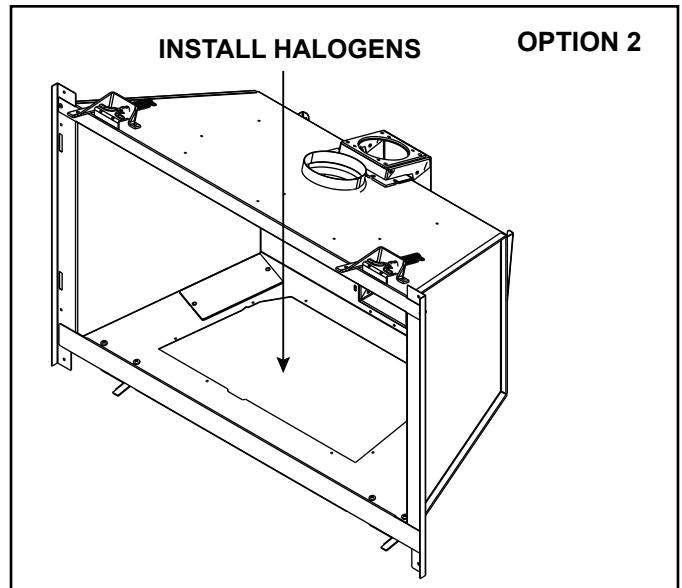

Figure 6.6 Through Valve Plate Opening (Option 2)
- Remove appliance front, glass, logs, base pan assembly, burner assembly and valve plate assembly. See Figure 6.6.